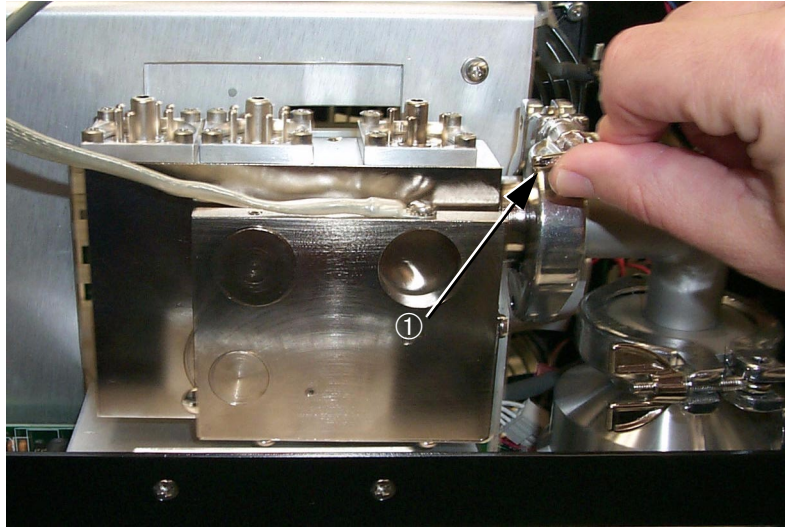

Figure 5-5 KF-25 Quick Clamp
7. Remove the KF-25 (ISO NW-25) quick clamp ① to disconnect the spectrometer tube from the 979C vacuum system (Figure 5-5).